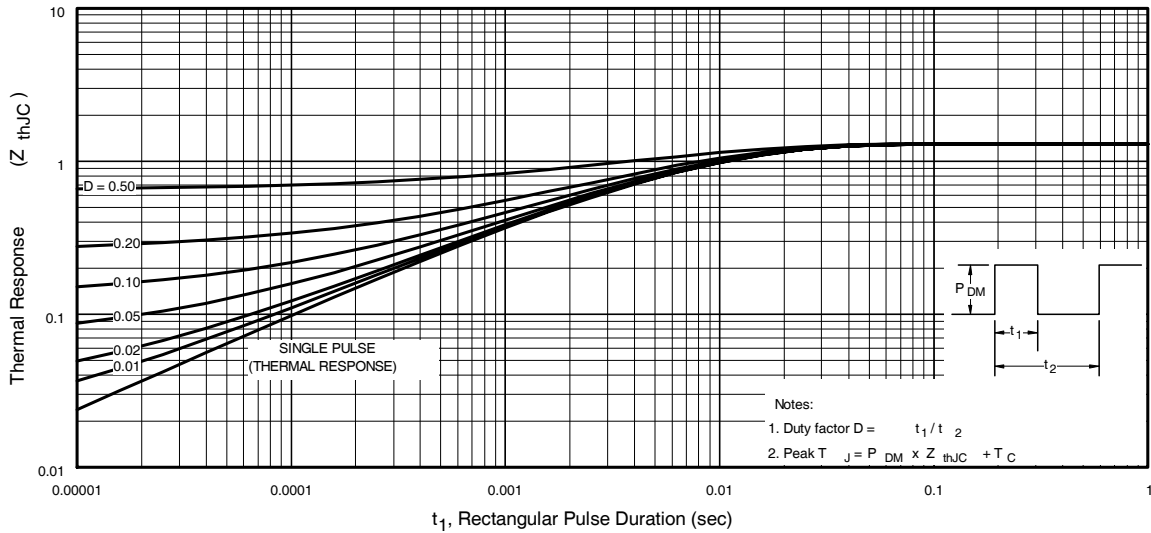

Fig 11. Maximum Effective Transient Thermal Impedance, Junction-to-Case
$Z_{thJC}(D, t_{av})$ = Transient thermal resistance, see figure 11)
- ① Repetitive rating; pulse width limited by max. junction temperature. (See fig. 11).
- ② Limited by T_{Jmax} , starting $T_J = 25^\circ C$, $L = 0.45mH$, $R_G = 25\Omega$, $I_{AS} = 30A$, $V_{GS} = 10V$. Part not recommended for use above this value.
- ③ $I_{SD} \leq 30A$, $di/dt \leq 280A/\mu s$, $V_{DD} \leq V_{(BR)DSS}$, $T_J \leq 175^\circ C$.
- ④ Pulse width $\leq 1.0ms$; duty cycle $\leq 2\%$.
- ⑤ C_{oss} eff. is a fixed capacitance that gives the same charging time as C_{oss} while V_{DS} is rising from 0 to 80% V_{DSS} .